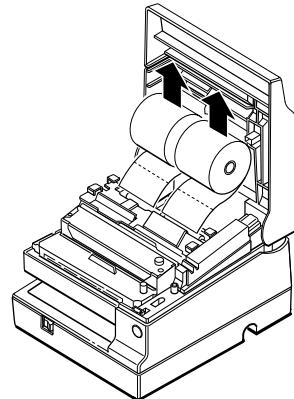

Figure 3-16. Cutting the Paper
3. Cut the paper on the lines shown in the figure below, using a pair of scissors or a knife; then remove the paper roll. (See Figure 3-16.)